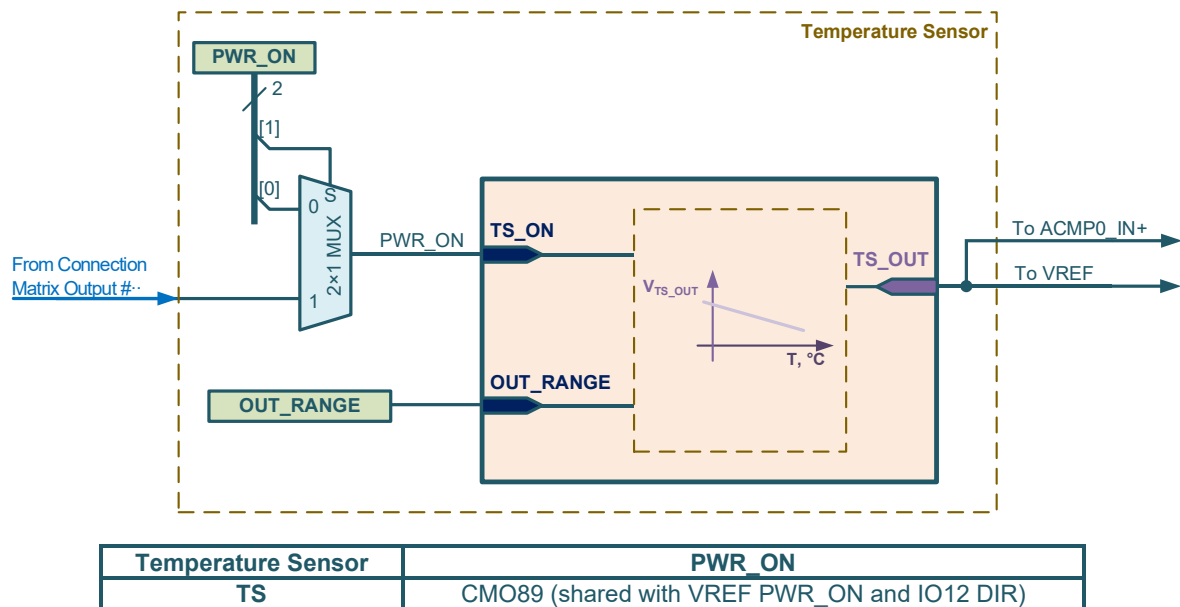
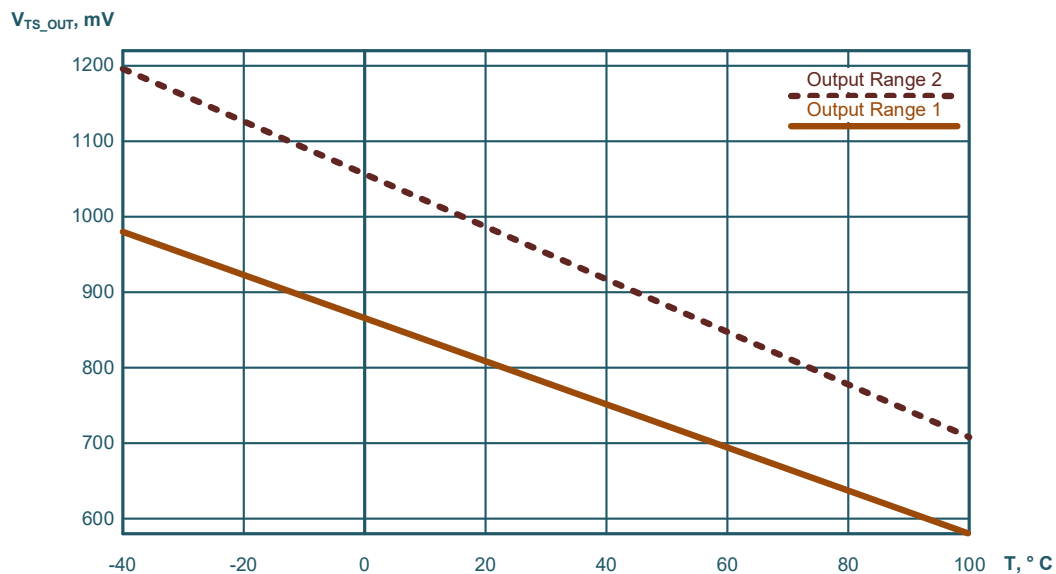

Figure 13.1. Analog Temperature Sensor Block Diagram
Figure 13.2. Analog Temperature Sensor Block Diagram
The μASIC has an Analog Temperature Sensor (TS), which output voltage is linearly-proportional to Centigrade temperature (Figure 13.1, Figure 13.2, Table 13.1). The TS output can be connected to the VREF and then route to IO12 or to ACMP0 IN+. The TS shares output with VREF.